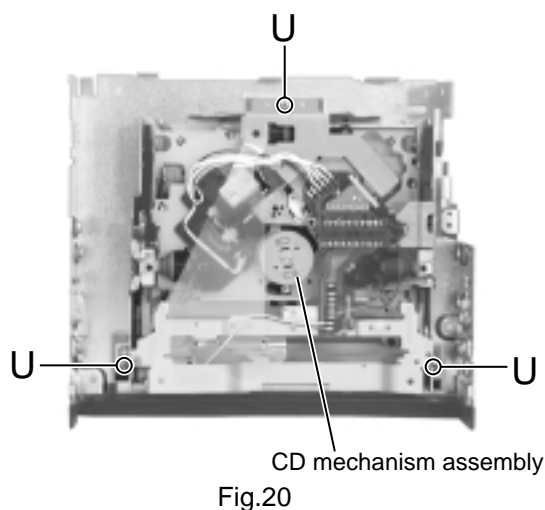

Fig.20
■ Removing the CD mechanism assembly (See Fig.20)